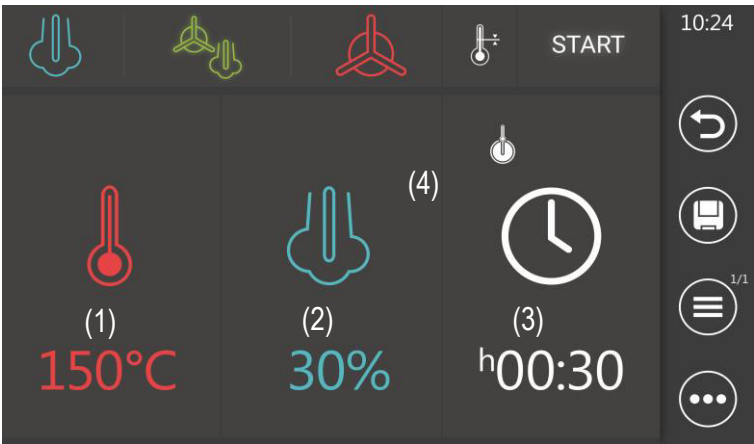

Fig. 7: Basic settings for combi-cooking
- ① Adding a cooking program step:
- A new cooking program step is generated automatically by selecting the "plus" symbol (bright green) and the display switches immediately to the start screen for manual cooking (fig. 7)